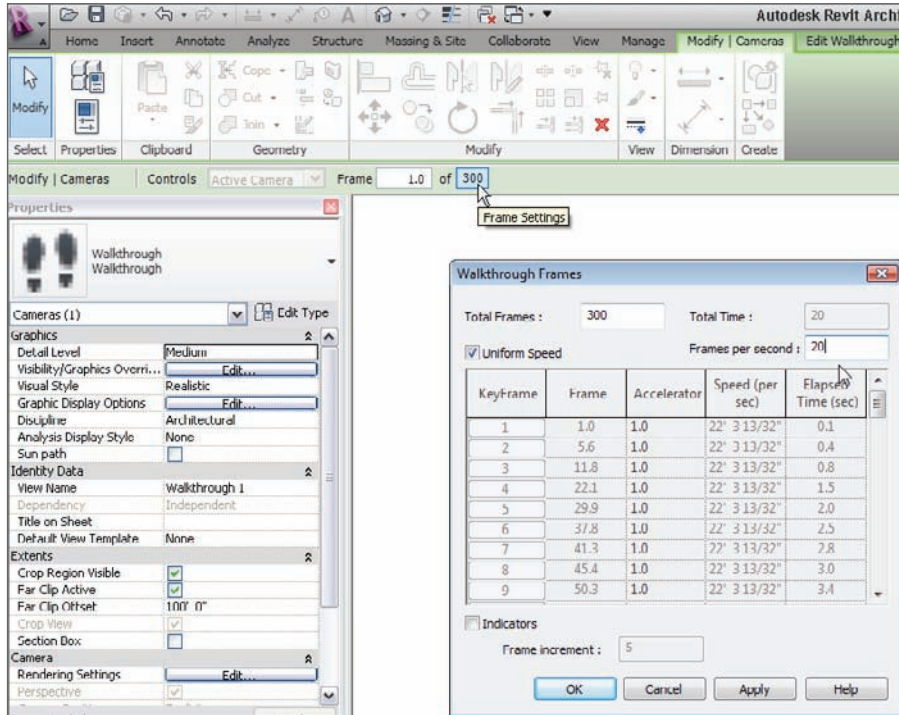

FIGURE 19.22 Changing the frames
14. When the walkthrough is finished, click the button that contains the value 300 (the number of frames) on the Options bar, as shown in Figure 19.22.